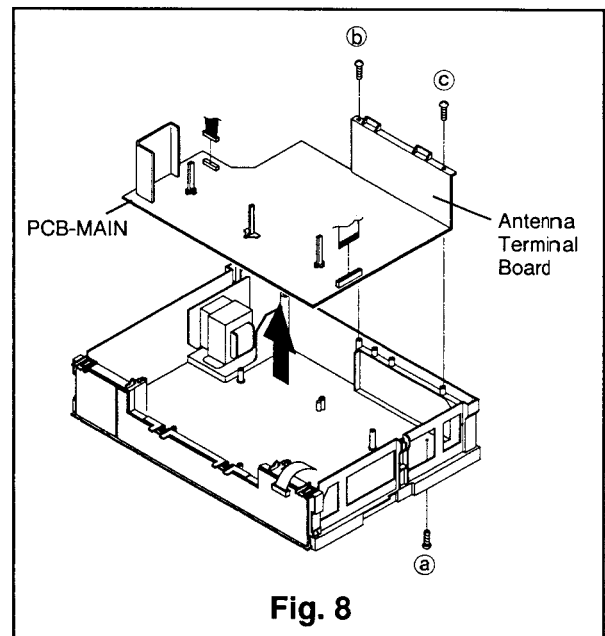

Fig. 8
- ④ If necessary, remove the Assy Deck refer to Para. 4 of the DISASSEMBLY. Remove one fastening screw (a) on the bottom and two fastening screws (b and c) on the Antenna Terminal Board shown in Fig. 8 and raise the PCB-MAIN upward to remove it.